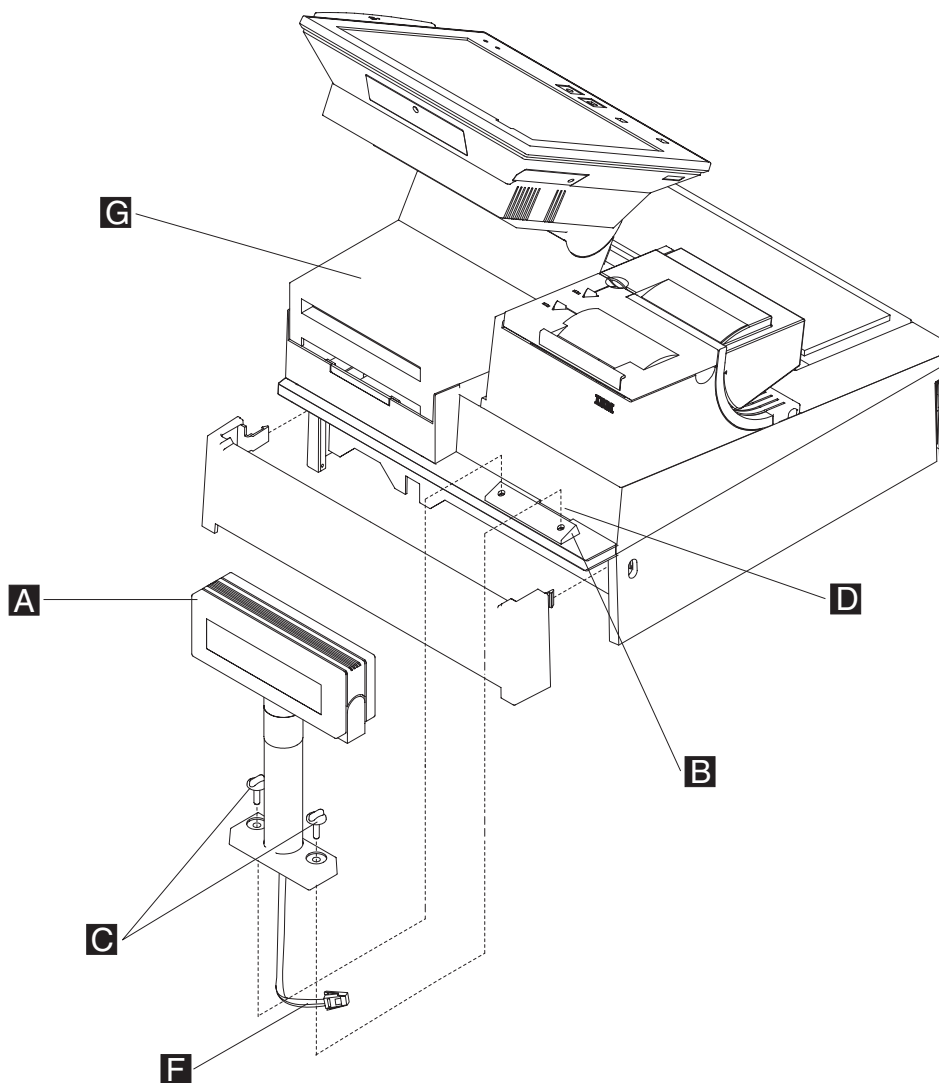

Figure 36. Remove the distributed character display from a full-size integration tray
- b. Unroute the distributed character display cable **F** to enable the distributed character display to be removed, as show in Figure 36.